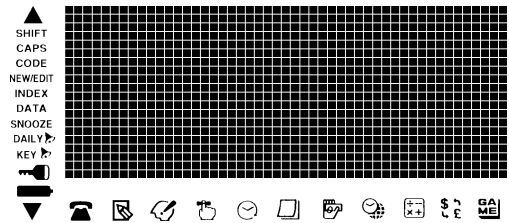

figure-1
**(figure-1)**
LCD display appears as shown in the **figure-1** again.